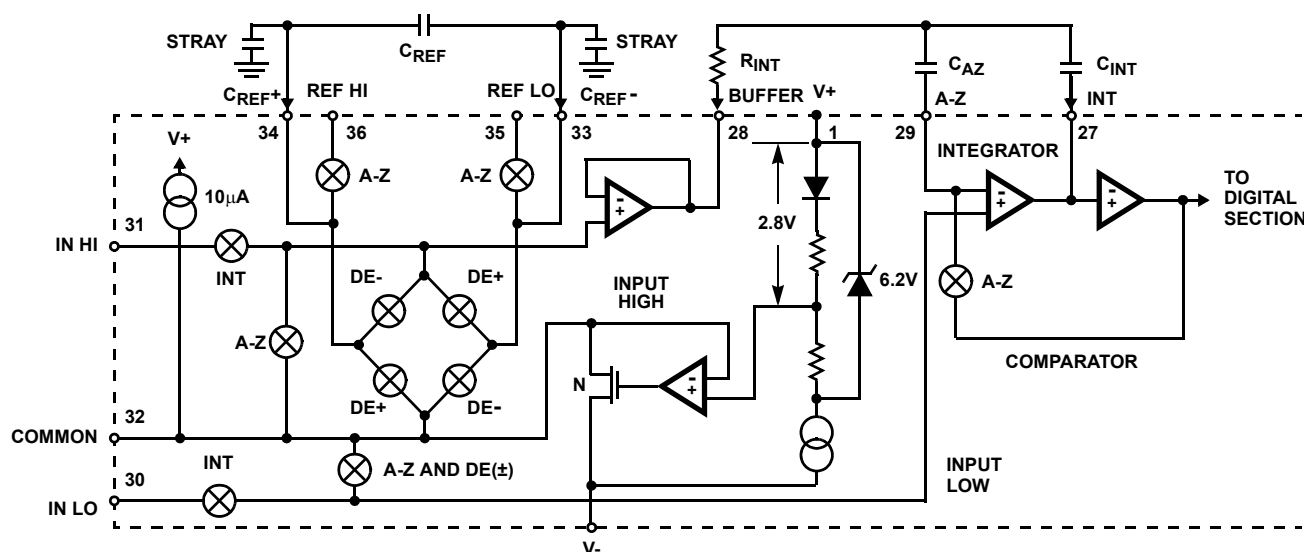

FIGURE 3. ANALOG SECTION OF ICL7106 AND ICL7107
Figure 3 shows the analog section for the ICL7106 and ICL7107. Each measurement cycle is divided into three phases. They are (1) auto-zero (A-Z), (2) signal integrate (INT) and (3) deintegrate (DE).